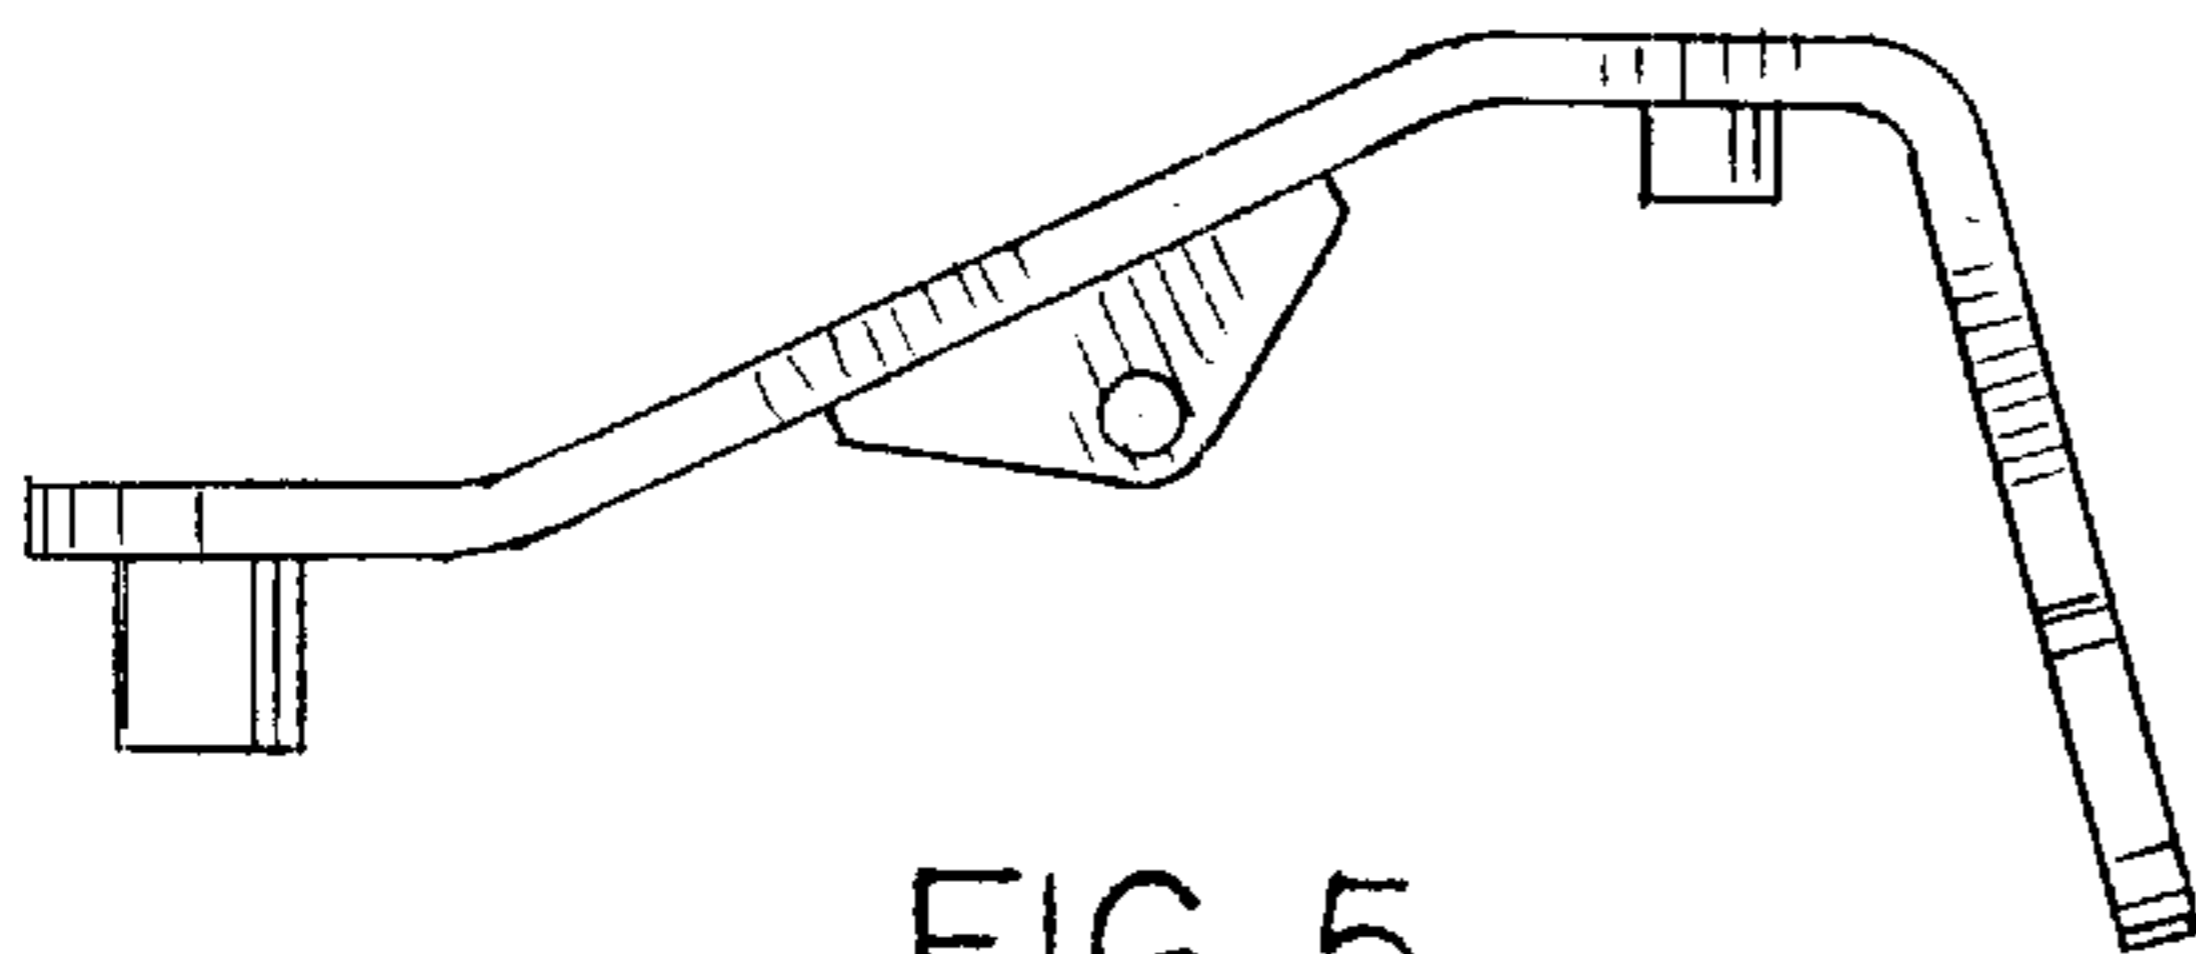

FIG. 5
- FIG. 5 is a bottom plan view thereof; and,